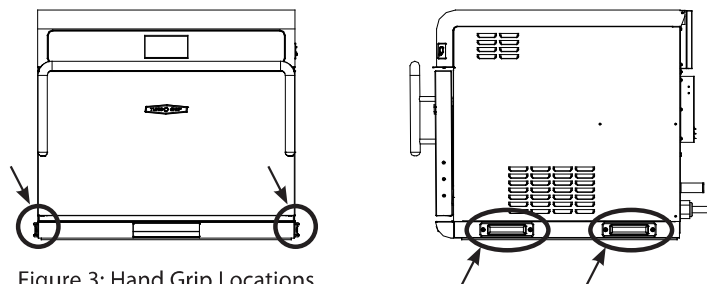

Figure 3: Hand Grip Locations
- ⚠ WARNING:** Lift only by using the provided hand grips (Figure 3, below). Never lift the oven by the door handle. This may result in a non-warranty service claim.
3. Place hands into grips (see Figure 3) and lift.